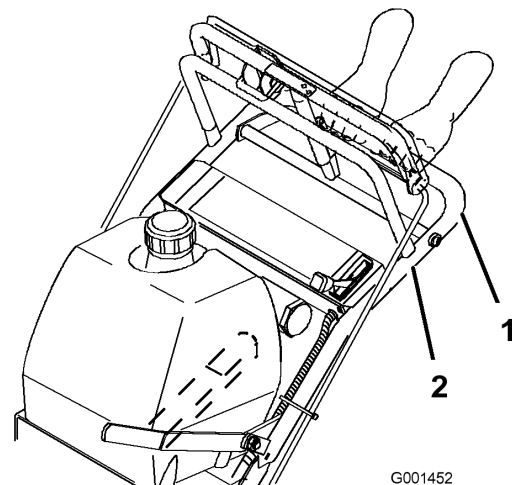

Figure 11
4. At the same time engage lower control bar and lift up on the lower handle (Figure 9 and Figure 11).